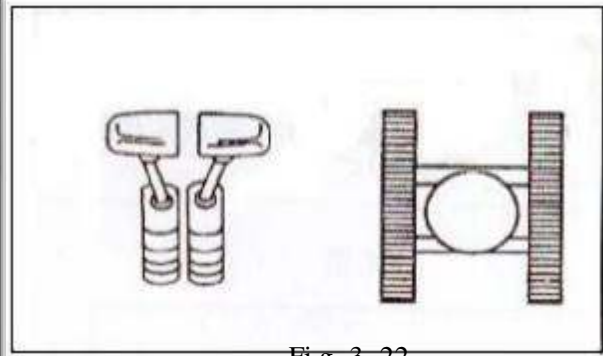

Fig 3-22
13. Stop walking (Figure 3-22) When the walking control lever returns to the middle position, the excavator automatically brakes and stops.